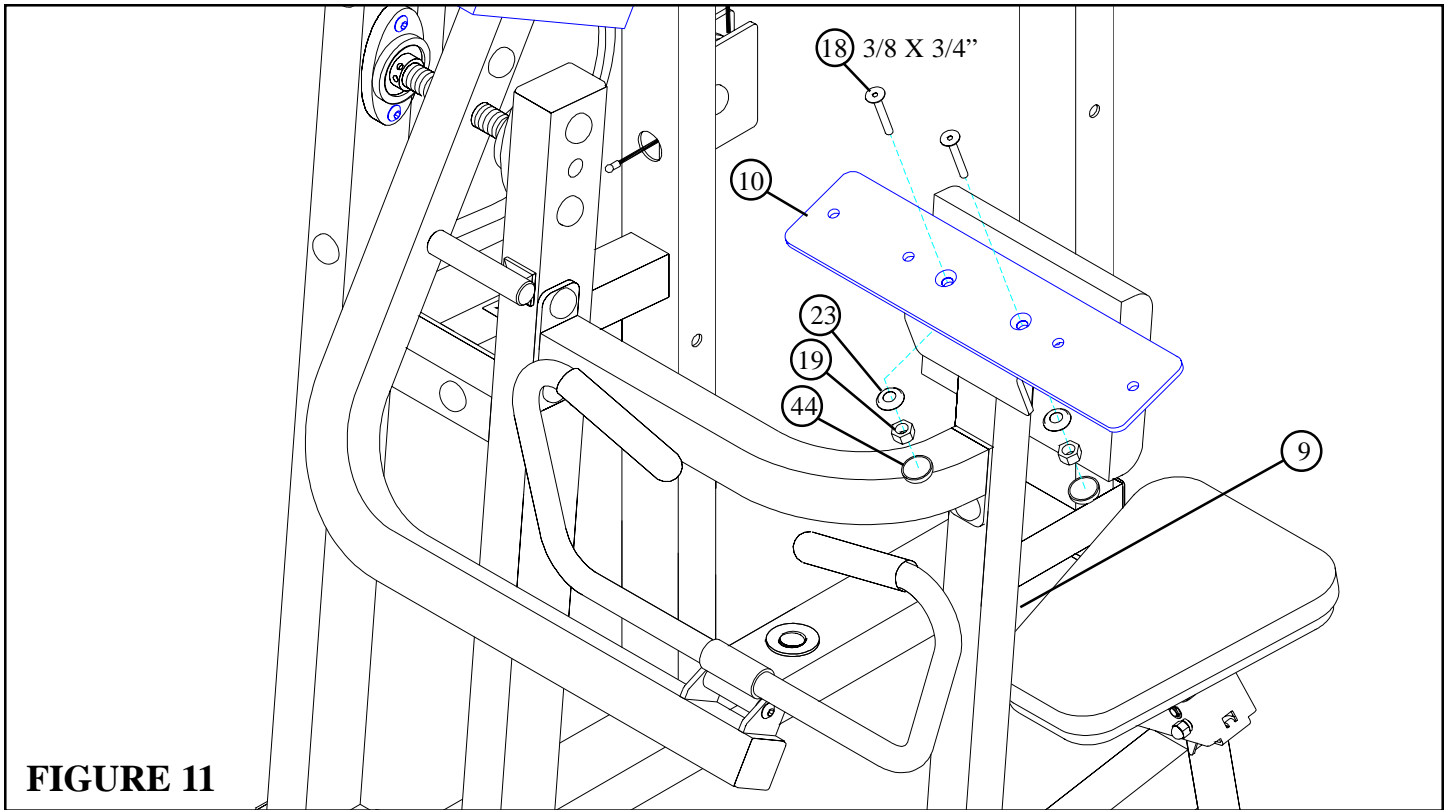

FIGURE 11
- **SECURELY** assemble the 4 X 18" PLATE (10) to the SEAT FRAME (9) using two 3/8 X 3/4" FLAT HEAD BOLTS (18), two 3/8" RH WASHERS (23), two 3/8" LOW HEIGHT LOCK NUTS (19) and two 3/8" RH CAPS (44) as shown in FIGURE 11.